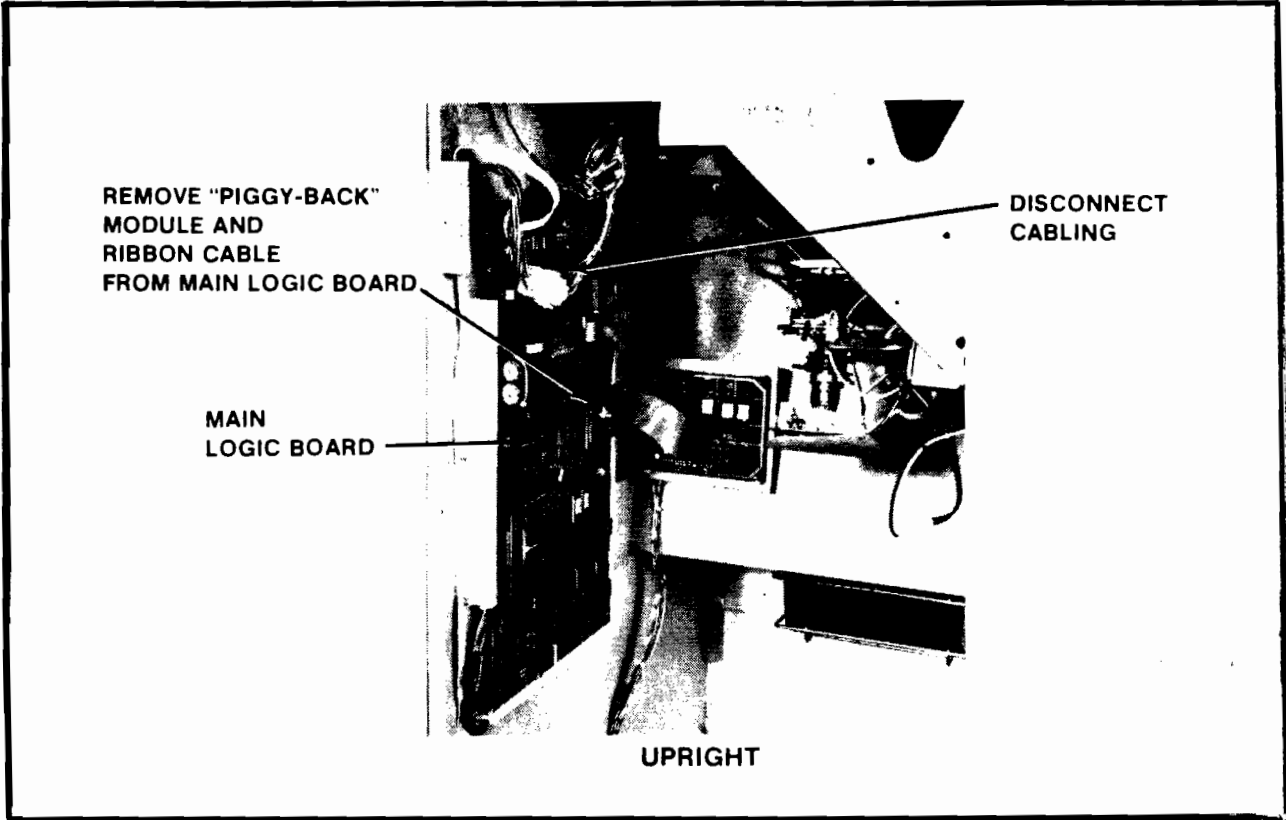

Figure 1
- Disconnect the Main Game Logic Board from all its cabling (see Figure 1).
- Cut the plastic securing strap and remove the "PIGGY BACK" module indicated in Figure 1, IF YOUR GAME IS EQUIPPED WITH ONE, and set it aside.